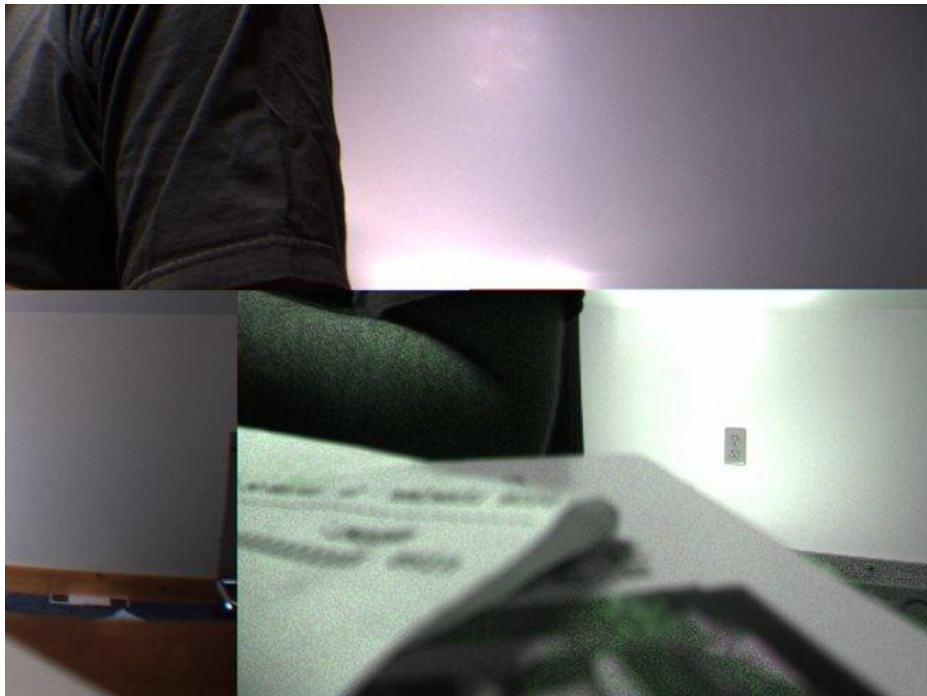

Figure 3
- Broken images that are made up of many different images (Figure 3 above).